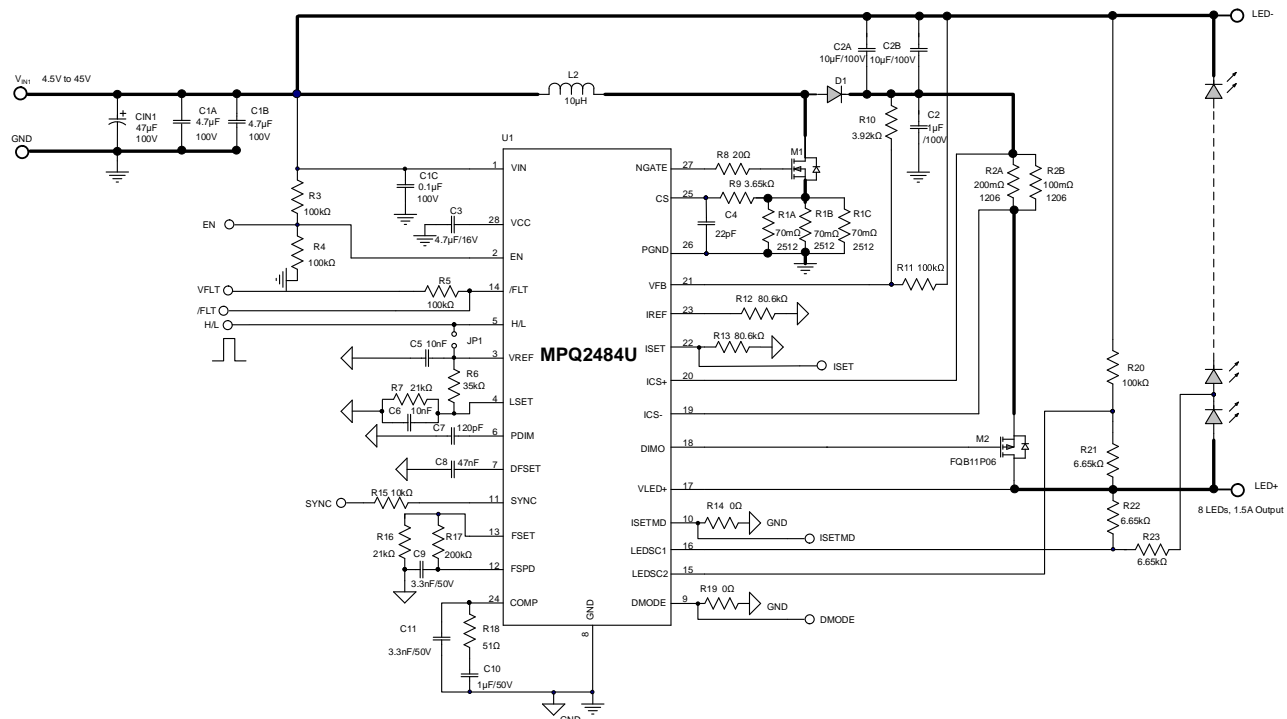
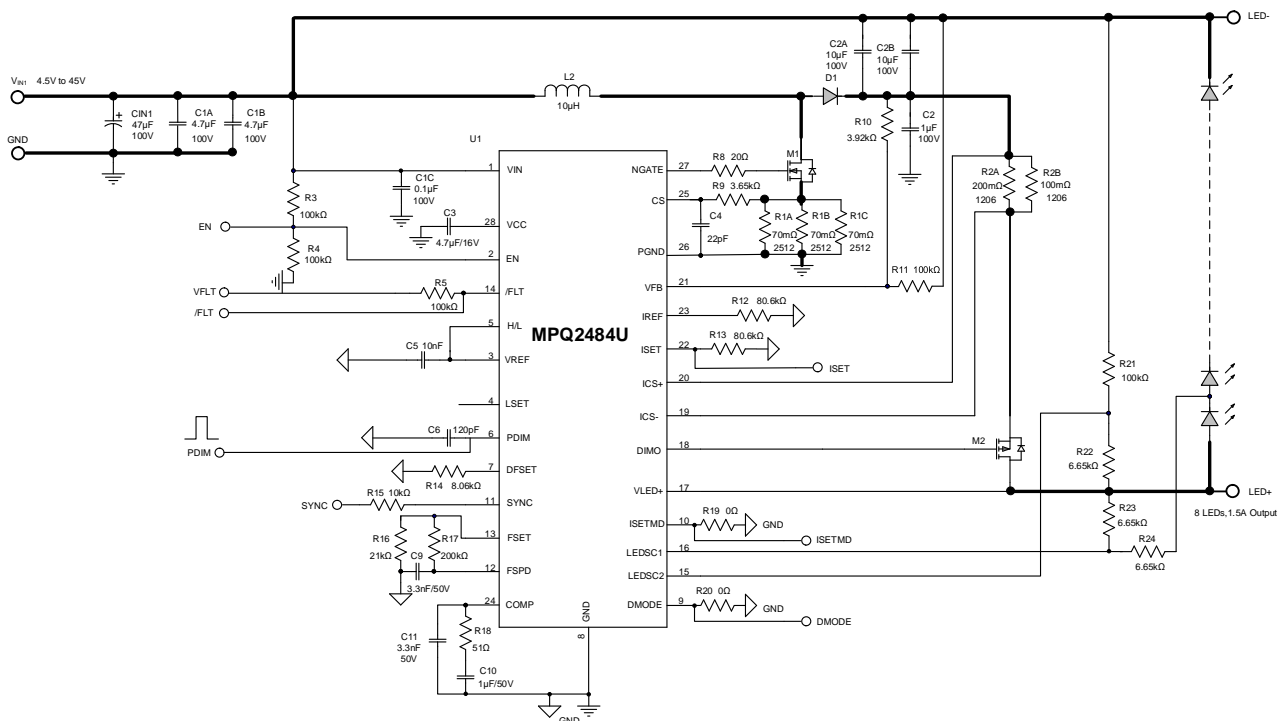
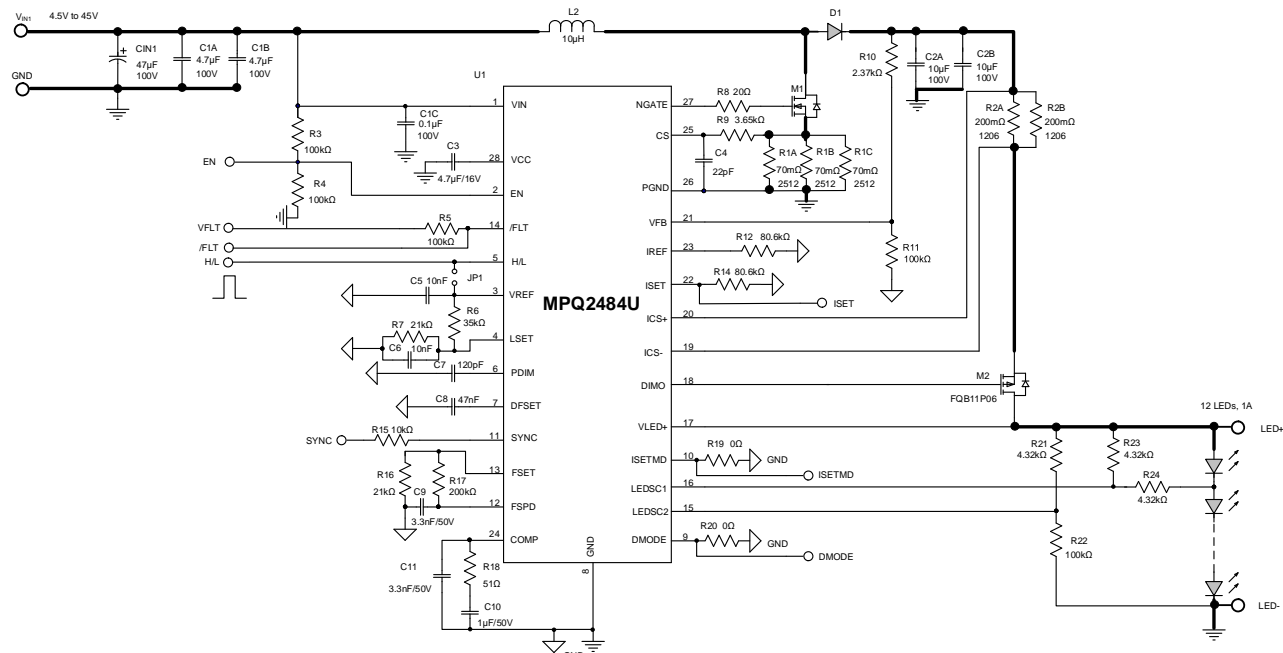

Figure 16: Typical Application Circuit for Buck-Boost Topology (Two-Step Dimming)
Figure 17: Typical Application Circuit for Buck-Boost Topology (PWM Dimming)
Figure 18: Typical Application Circuit for Boost Topology (Two-Step Dimming)
For the applications shown in Figure 16 and Figure 17 on page 54 and in Figure 18 and Figure 19 on page 55, It is recommended follow the guidelines below:
The resistor divider network (R10 and R11) connected to ICS+, VFB, and the cathode of the LED string monitors the output voltage (see Figure 16 on page 54).
- 8) The recommended layout is based on Figure 17 on page 54 and Figure 19 on page 55.